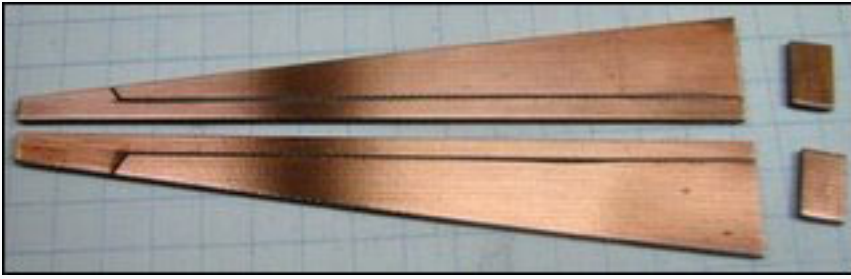

Figure 3. The two cut pieces are set to mirror each other.
2. Cut the board along the diagonal. Use a hobby knife and a metal ruler or other straight-edge guide to cut out copper to make a trace along the long edge of each piece. Orient the cuts to mirror each other. Then also cut two 1/4" by 3/8" copper-clad rectangles for spacers between the two blades (**Figure 3**).